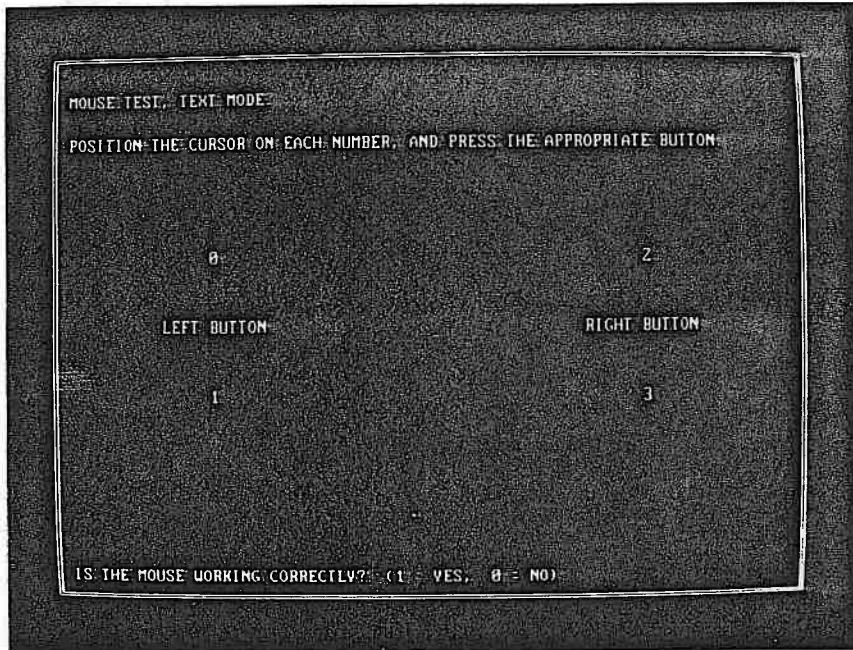

Figure 5-39. Text Mode Test Pattern
b. The second test pattern produced is shown in Figure 5-39.